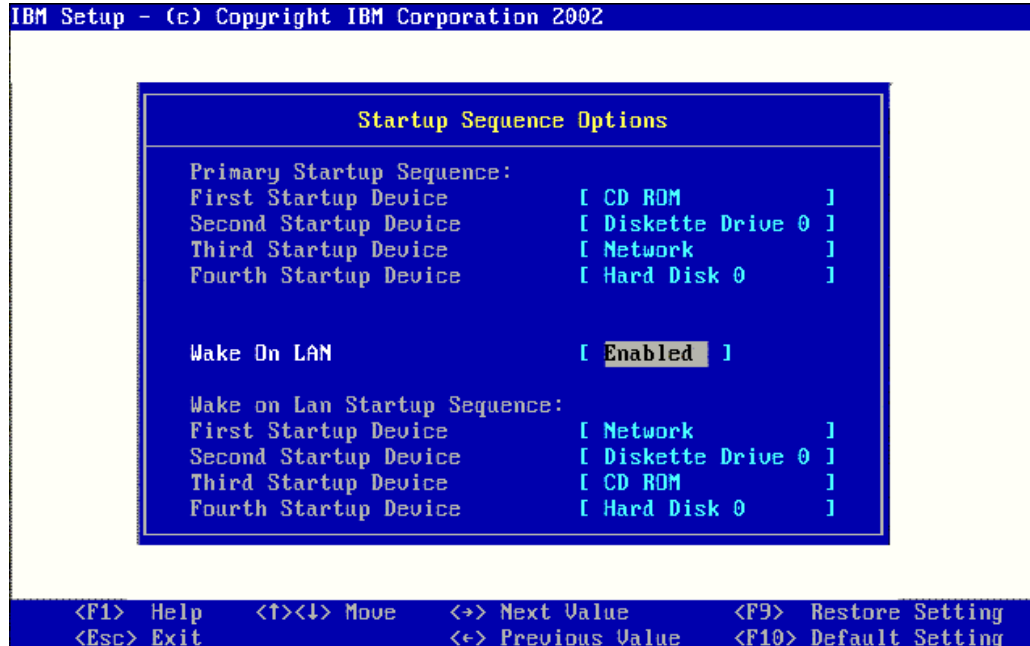

Figure 3-2 Boot sequence
- ▶ Regarding the startup sequence, if the machine was installed over the network with RIS, you probably do not need to boot from a diskette or CD-ROM and can disable these in the boot order. If you plan to use RDM, you should enable the Wake On LAN setting (Figure 3-2 on page 31) to be able to remotely start a blade server that has been turned off.